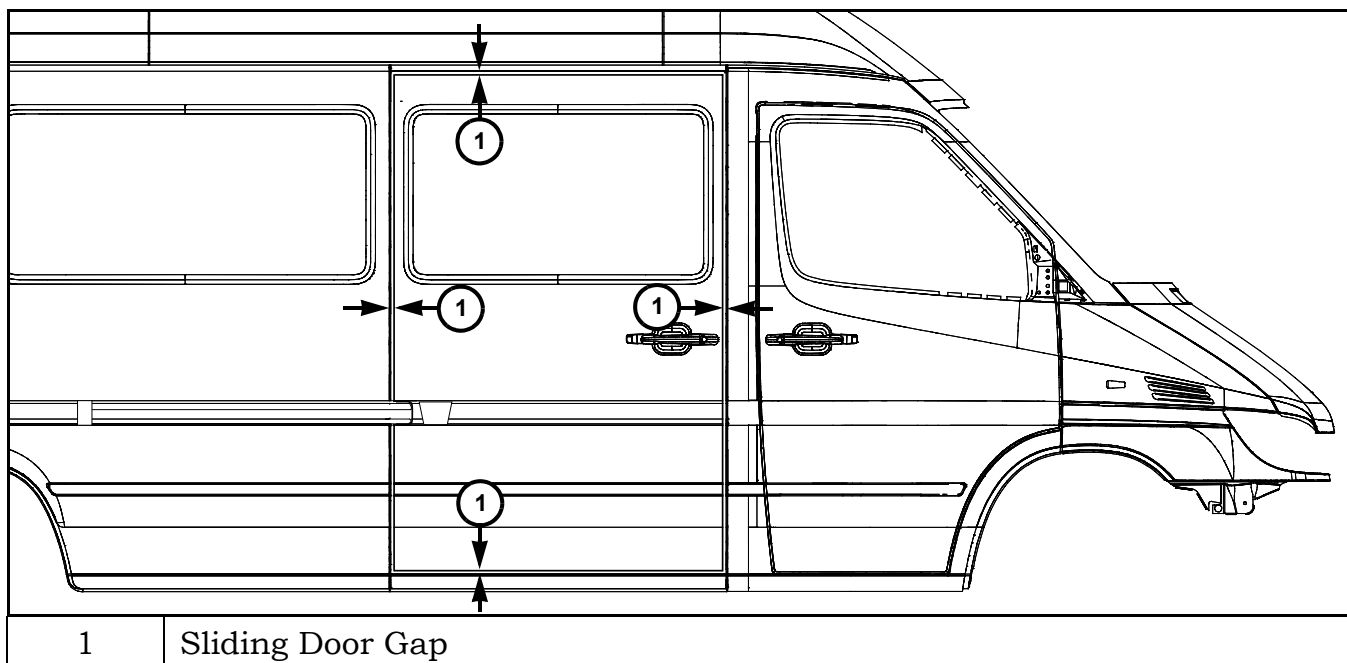

Figure 2 Sliding Door Gap
1. Check the sliding door gap all the way around (Figure 2). The gap nominal value is 7 mm  $\pm$ 0.5 (0.276 in  $\pm$ 0.019).